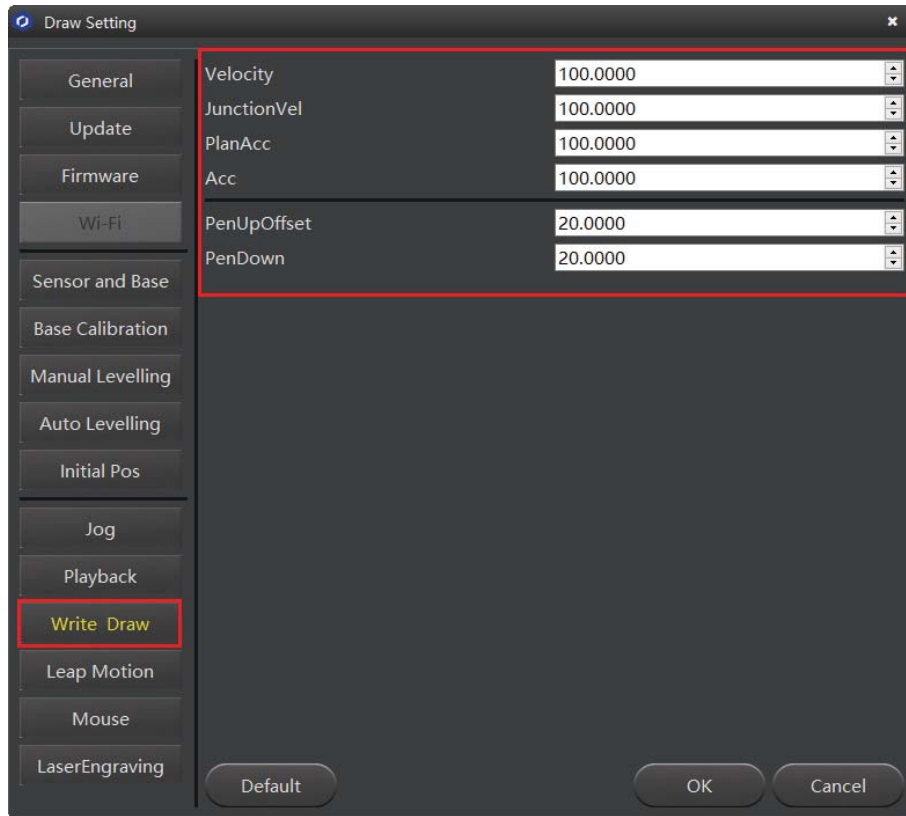

Figure 5.53 Setting the parameters of the Write & Draw function
2. Click **Write & Draw** to set the Dobot Magician's **Velocity** (mm/s), junction velocity (**JunctionVel**: mm/s), **PlanAcc** (mm/s^2), acceleration (**Acc**: mm/s^2), **PenUpOffset** (mm), **PenDown** (mm), as shown in Figure 5.53.